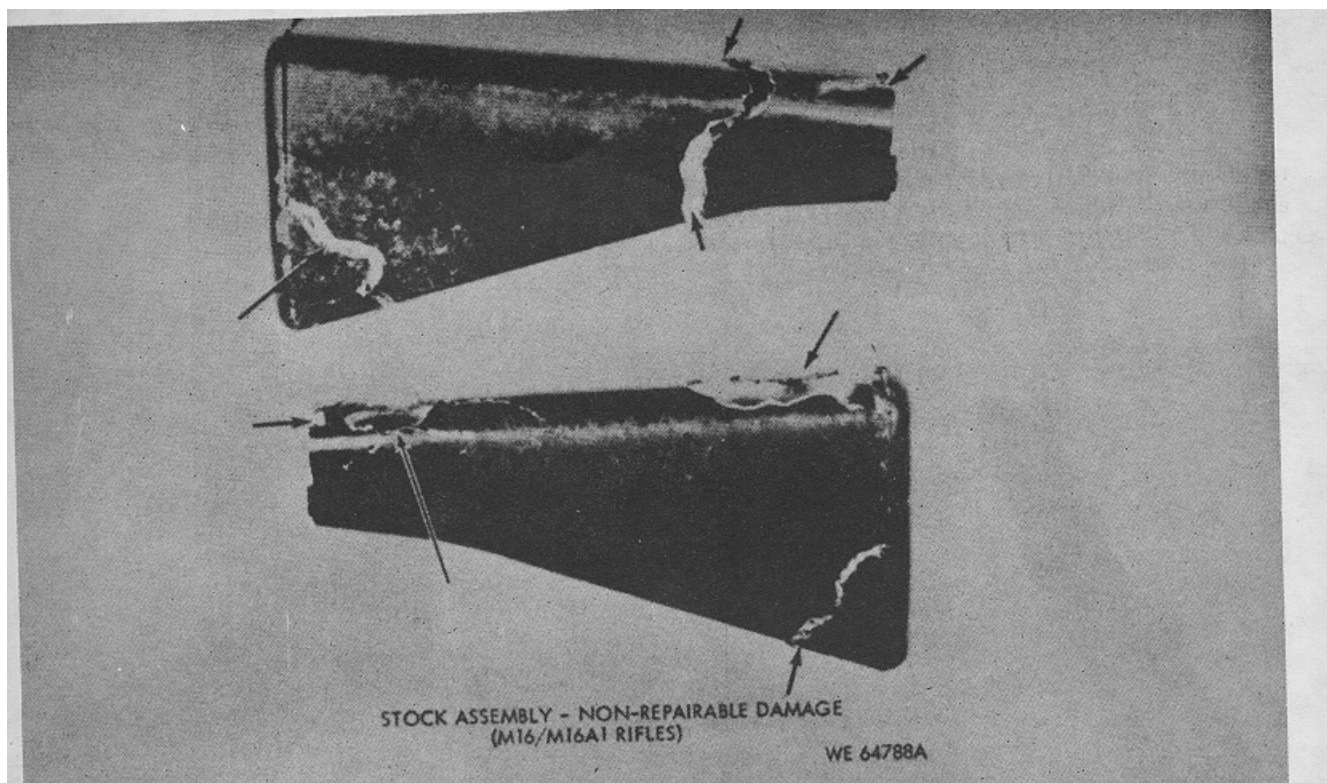

Figure 3-10. Non-repairable damage to fiber glass/plastic stock assemblies.
- Stock assemblies damaged as indicated in figure 3-10 will be replaced.